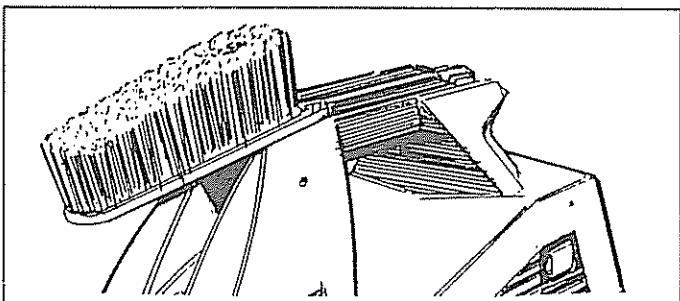

FIG. 11
- Store utility brush on top of handle (Fig. 11).